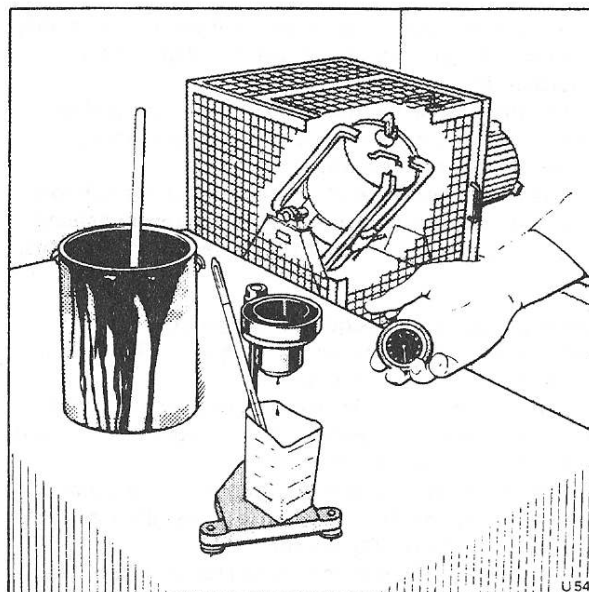

Fig. S47 Making a viscosity check
3. Thin to the recommended viscosity and check with a viscosity cup (see Fig. S47).
2. Before any thinners are added, ensure that the paint is at the recommended paint shop temperature of at least 18°C. (65°F.) see Figure S47.
4. Thin with the correct proportion of thinners and then carry out a viscosity check as follows (see Fig. S47). This involves timing the flow of liquid through an orifice until the first break-point in the thread of liquid occurs.
f. Place a suitable receiver under the flow cup, remove the finger from the orifice and simultaneously start the stopwatch, stopping it when the stream of the paint sample first breaks (see Fig. S47).